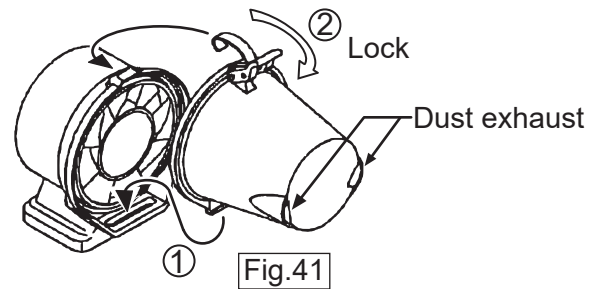

Fig.41
- iii) Set the dust pot to air cleaner, then fasten the latch of it securely. (Fig. 41)